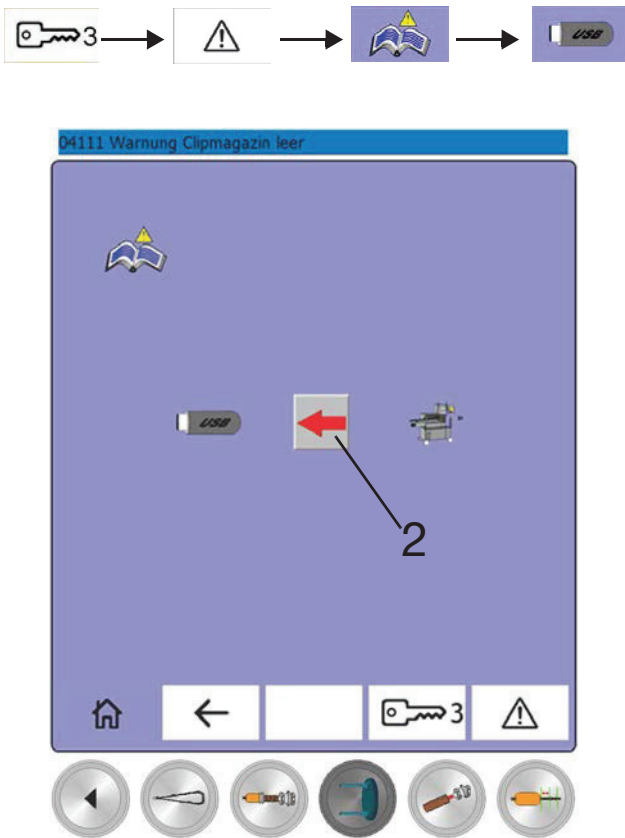

Fig. 4-49 Exporting message history
The Export message history screen appears (see Fig. 4-49).
- Press button 2. (Fig. 4-49)